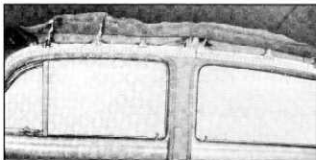

Fig. 29—Attachment of Headlining Support Wires to Side Roof Rail
4. On the right roof rail, remove screws holding ends of headlining support wires to side roof rail (fig. 29).